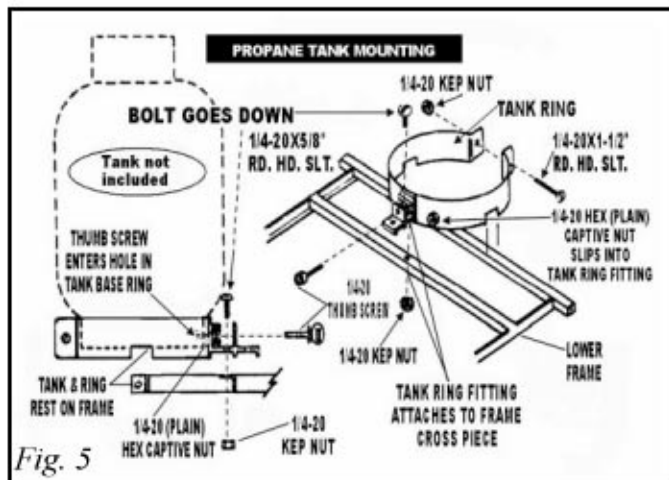

Fig. 5
**Step 3: Tank Holder Ring Assembly For LP Gas Models (Fig. 5)**